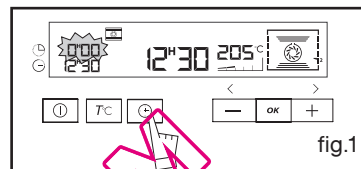
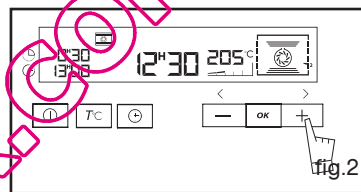

fig.1
fig.2
Press the touch control ① (fig.1) then use the touch controls + or - to select your cooking (fig.2).
The display starts flashing 0:00 to indicate you can now adjust the setting (fig.1).
Example: 30 mins cooking time (fig.2).
The display starts flashing to indicate you can now adjust the setting (fig.1).
Example: end of cooking at 16:00 (fig.2).
- Press the  touch control 3 times (fig.1).
- Adjust the chosen time by pressing the + or - buttons (fig.2).
With the oven off, press on the touch control **OK** for several seconds until a "key" appears on the screen -> access to the oven controls is now blocked (fig.1).